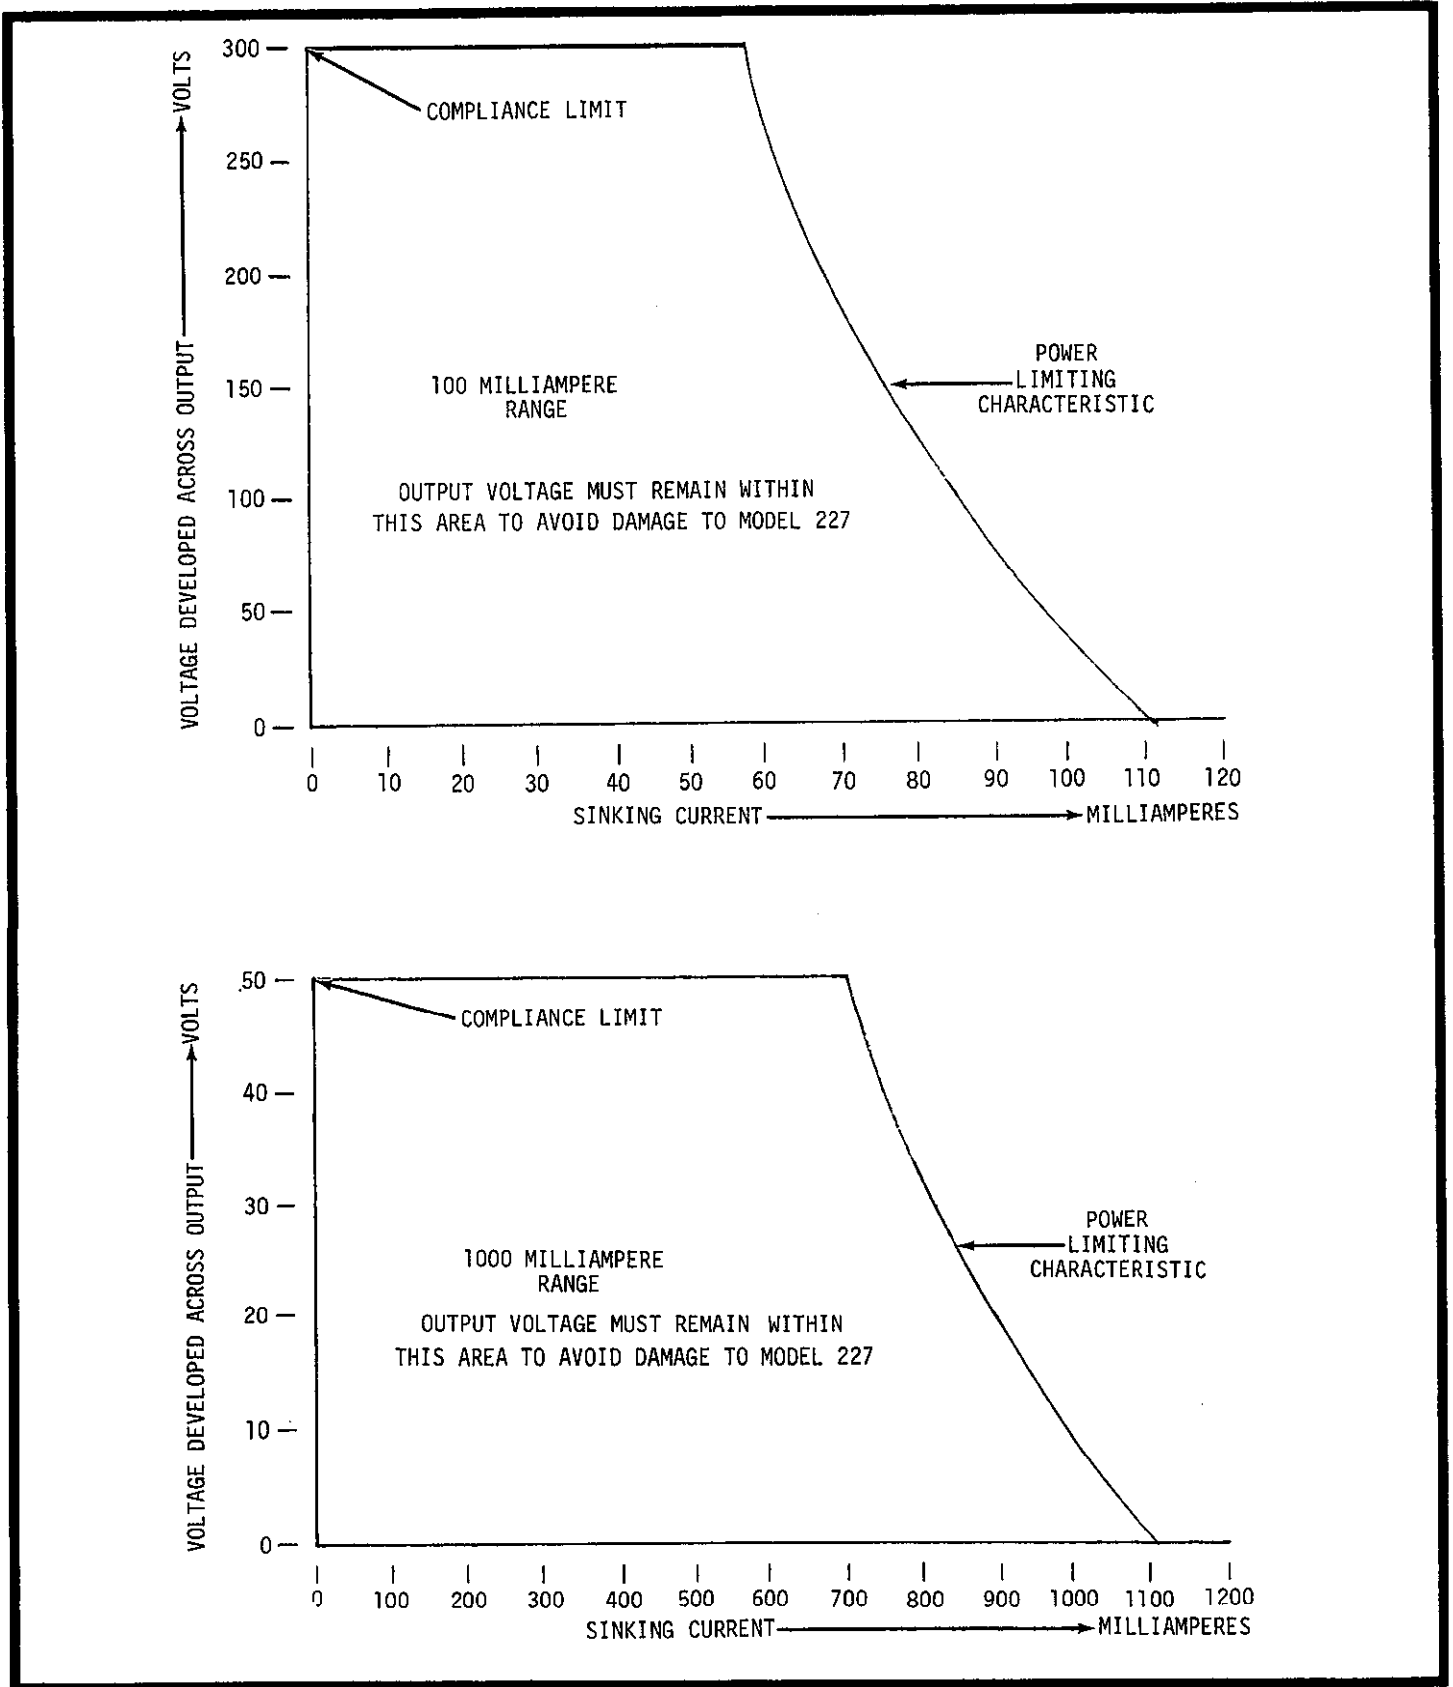

FIGURE 14a,b. Power Limits When Used as a Current Sink.
When the Model 227 is connected so as to sink current (that is, power is delivered to the Model 227 by an external power supply), care should be taken to limit the power delivered to the terminals of the Model 227 as shown in Figures 14a and 14b. If power dissipated within the Model 227 exceeds these limitations overheating and damage to the Model 227 could occur. For example, if the external power supply is capable of delivering greater than 700 milliamperes, then the voltage across the Model 227 output terminals must be less than 50 volts (approximately 46 watts maximum internal dissipation allowed).
b. Precautions when Using an External Voltage Source. When an external voltage source is connected in series with the Model 227 output, care should be taken to observe the power limits shown in Figures 14a and 14b when sinking current. For example, if the external voltage source is capable of delivering 60 milliamperes at 300 volts (or 700mA at 50V), a shorted load could cause the Model 227 to sink current causing excessive power dissipation and possible damage to the Model 227.